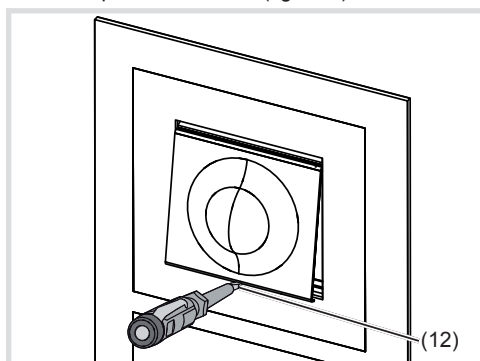

Figure 6: dismantling video module centre plate
The camera can be pointed to ensure the picture captures the site context (figures 6 to 9).
- Insert a flat-headed screwdriver into the opening (12) then gently lever the camera centre plate to loosen it (figure 6).